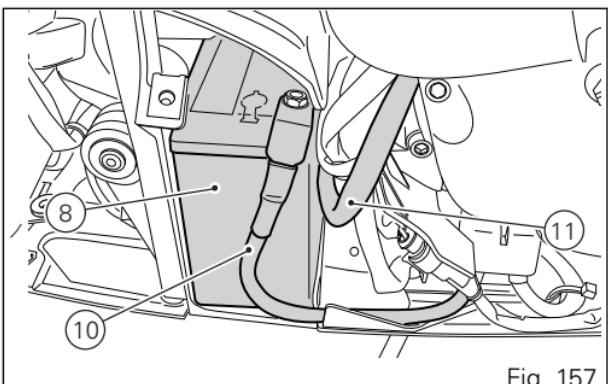

Fig. 157
Reinstall the battery (8) in the support, positioning the cables (10) and (11) as shown in (Fig. 157).